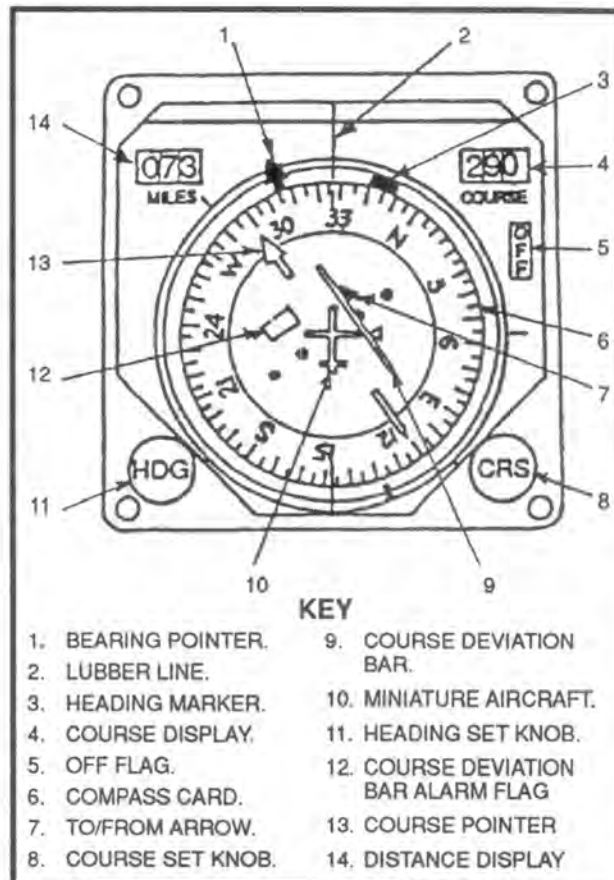

Figure 1-24 HSI Indicators and Controls
1.172 The Horizontal Situation Indicator (HSI) provides displacement and horizontal position indications relative to a steer-to destination, TACAN station, VOR/ILS station, or UHF NDB station. The HSI indicators and controls are shown in Figure 1-24.